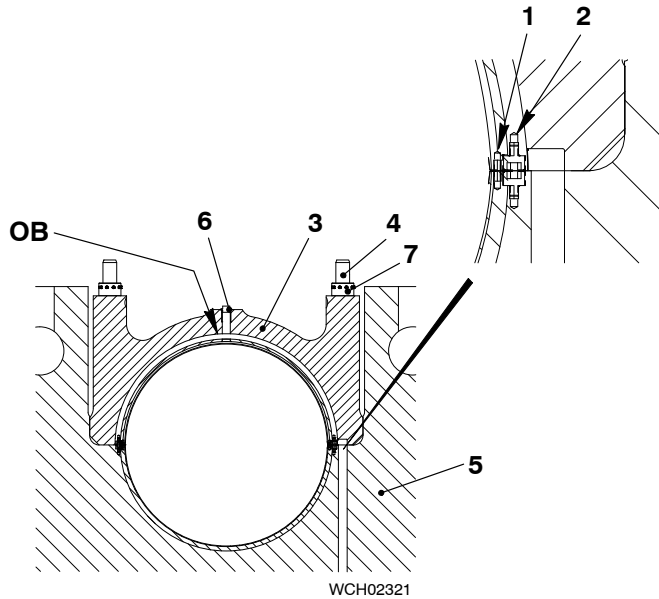
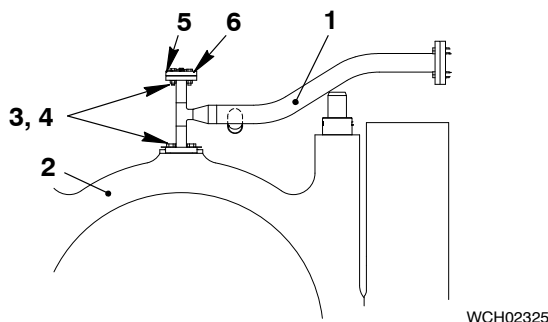

Fig. 24
Fig. 25
- 2) Remove all plugs from the oil bore (OB).
Note: The top bearing shell is attached to the cover with two Allen screws (2, Fig. 24). The spring dowel pins (1) help to get the bearing cover (3) in position during the installation.
- 4) Clean all surfaces on the the bearing cover (3) and the bearing girder (5).
- 5) Lower the bearing cover (3) on to the bearing girder (5). Make sure that the two spring dowel pins engage correctly.
- 6) Apply tension to the elastic studs (4), refer to 1132 1.
- 7) Tighten the round nuts (7).
- 8) Clean the pipes (1, Fig. 25).
- 9) Install the pipes (1), their gaskets and new tab washers (4).
- 10) Tighten the screws (3).
- 11) Lock the screws (3) with the new tab washers (4).
- a) Remove the blank flange (6, Fig. 25).
- b) Remove the screw plug (5).
- d) Attach the blank flange (6) with the screw plug (5).